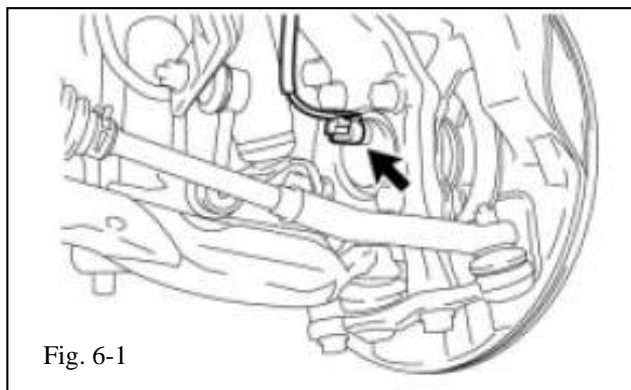

Fig. 6-1
- (a) Disconnect the speed sensor connector from the front speed sensor (Fig 6-1).